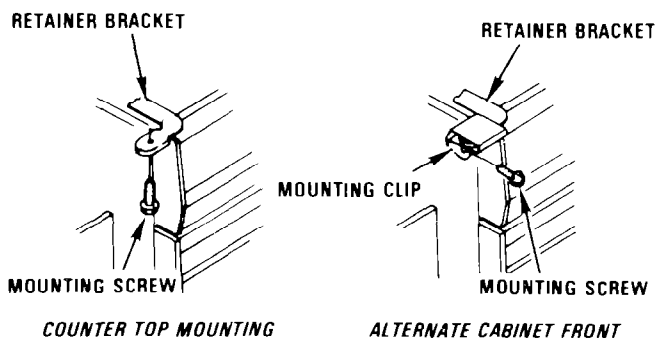

FIGURE 14
- Fasten the retaining brackets to the underside of the counter top with the screws provided. Use auxiliary clip for fastening to cabinet front when counter top mounting method is not permissible. See Figure 14.